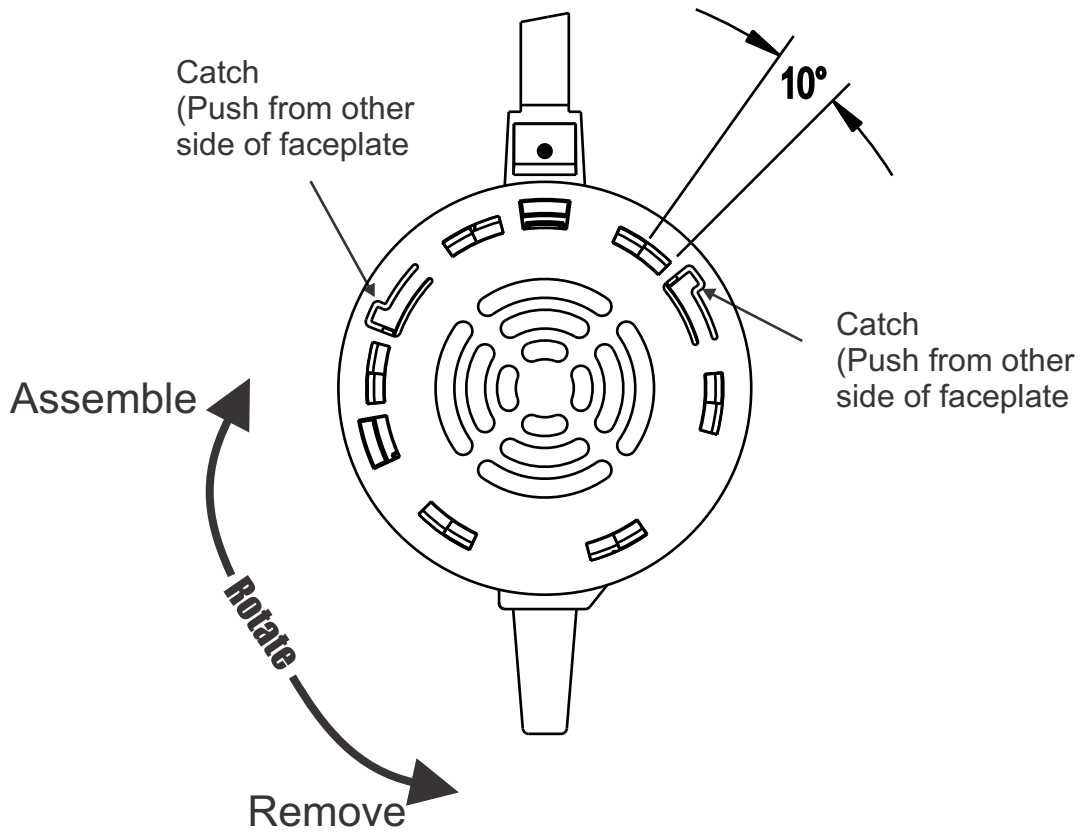

FIGURE 3. Faceplate Disassembly/Assembly View
1. At the same time, push the **two (2) catches** located in the faceplate out of the way (Figure 3).
3. Carefully, pull the **faceplate assembly** away from the housing (item 6 or 7).